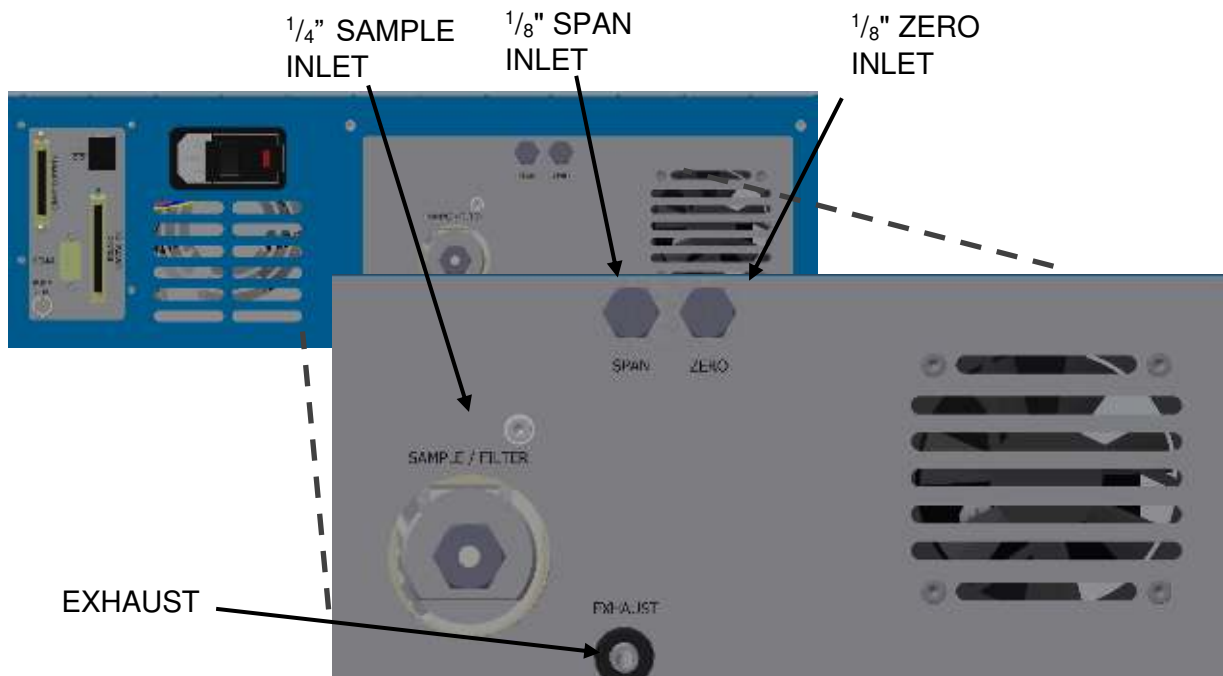

Figure 2: NEBULA pneumatic connections
- Figure 2 below shows the rear panel layout of the NEBULA;